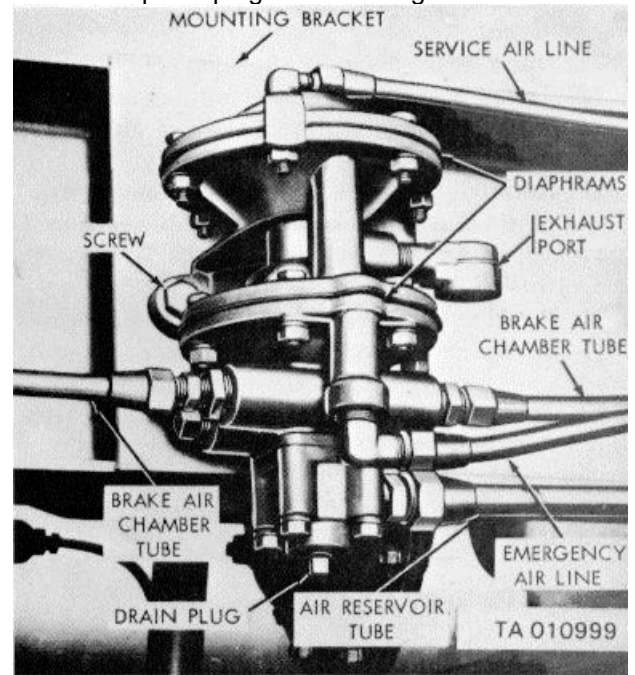

Figure 4-33. Relay valve.
- (1) Position air filter on crossmember with arrow on body of air filter pointing in direction of air flow.
- (2) Place U-bolt over air filter through holes in crossmember and secure with two nuts and washers.
- (3) Connect air tubes to air filter fittings.
- (4) Connect intervehicular SERVICE and EMERGENCY brake air hose couplings and close air reservoir drain cock.
**4-41. Relay Valve (fig. 4-33)**
- a. Draining of Moisture.* Remove drain plug from bottom of relay valve (fig. 4-33) to drain accumulated moisture. Replace plug after draining.
(1) Open drain cock on air reservoir.
(2) Disconnect emergency and service air tubes, air reservoir air tube and brake air chamber air tubes (fig. 4-33) from relay valve.
(3) Remove three cap screws and lock washers securing relay valve to mounting bracket and remove valve.
(1) Position relay valve on mounting bracket (fig. 4-33) and secure with three screws and lock washers.
(2) Connect air brake chamber tubes, air reservoir tubes, and service and emergency air lines to relay valve (fig. 4-33).
(3) Make operating and leakage tests (b and c above).